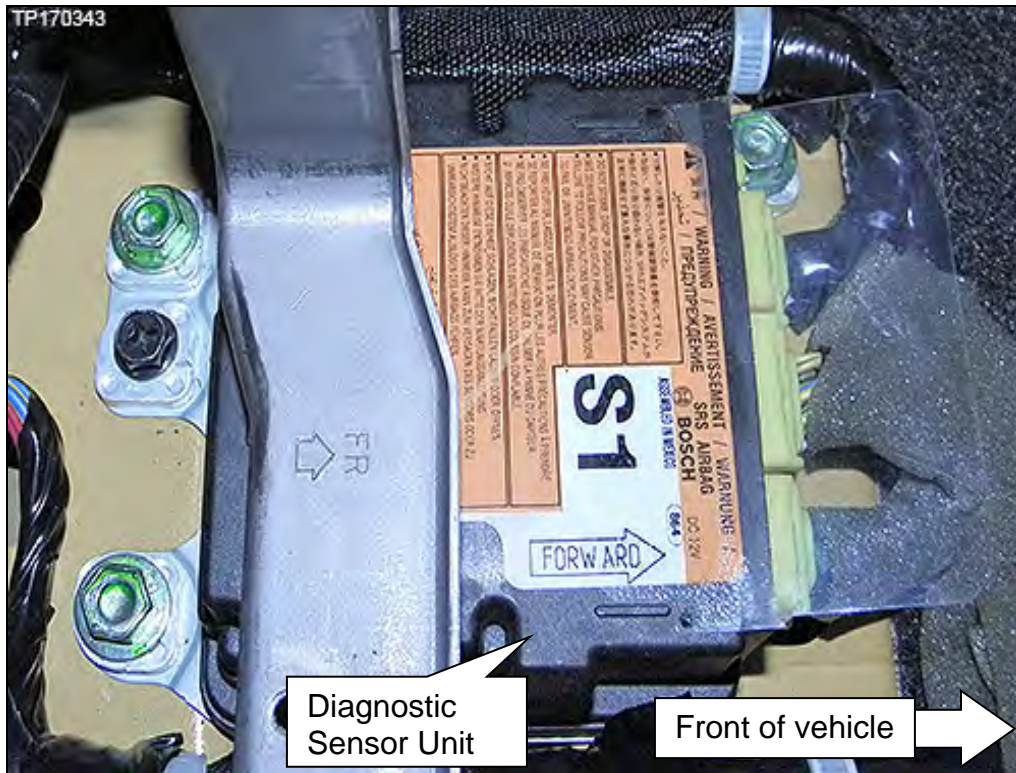

Figure 1E
4. Replace the Diagnostic Sensor Unit shown in Figure 1E.